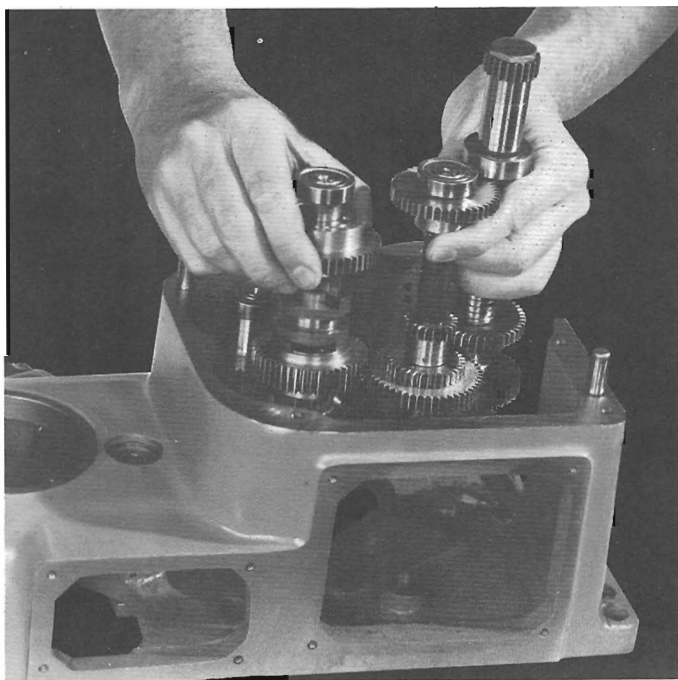

Figure 35 — Clutch Shaft, Intermediate Shaft and Change Shaft Removal
12. Remove clutch shaft, intermediate shaft and change shaft assemblies simultaneously, Figure 35.
4. Replace clutch shaft, intermediate shaft and change shaft assemblies simultaneously, Figure 35. Tap into place.